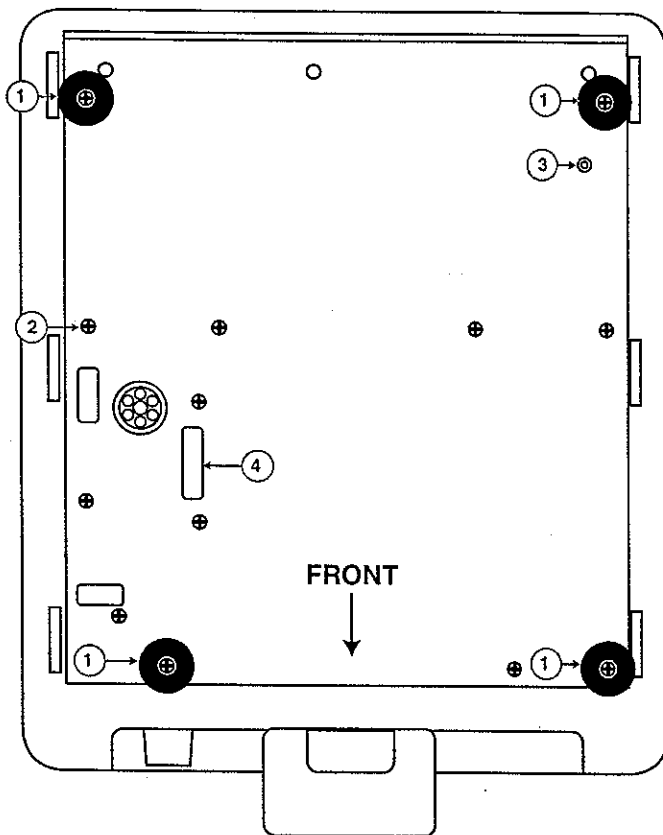
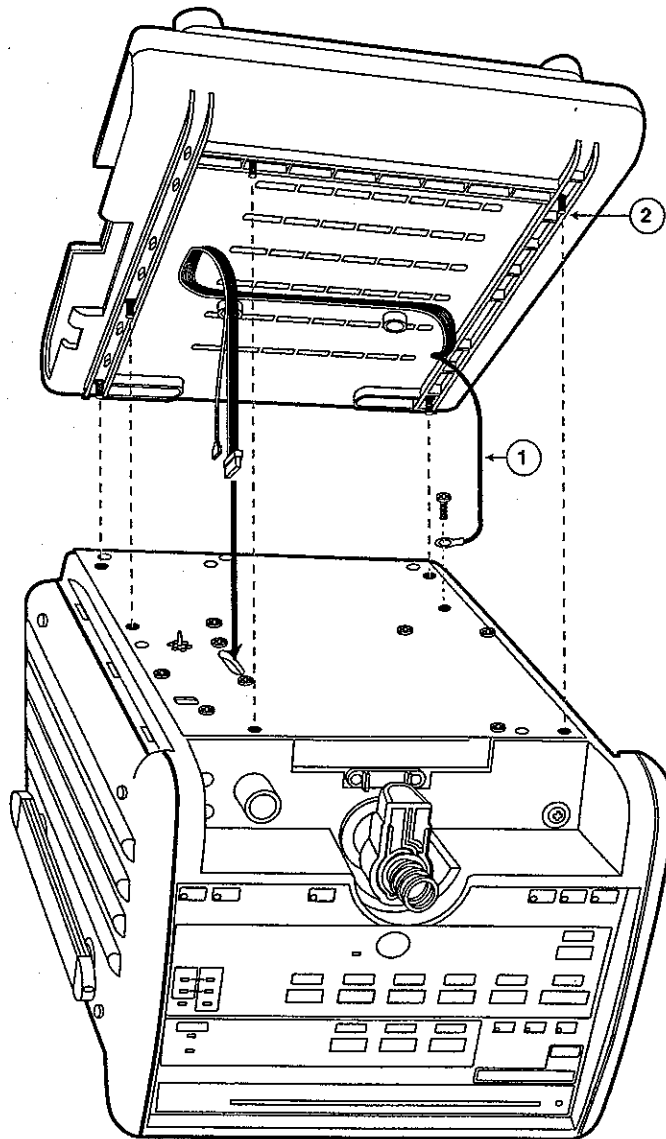

Figure 5-21. Ventilator Base
Figure 5-22. Docking Bay Assembly
- 3 Referring to Figure 5-21, remove the following from the base of the ventilator:
- Four (4) Rubber Bumpers—Ref. 1
- Two (2) Screws—Ref. 2 & 3
- 6 Using the screw provided, attach the green/yellow wire with the ring terminal to the nut insert indicated in Figure 5-22, Ref. 1.
- 8 Starting with the 8 position connector , pass the cables from the docking bay through the slot in the base of the ventilator indicated in Figure 5-22.
- 9 Referring to Figure 5-22, align the captive retaining screws Ref. 2 with the mounting insert ts where the rubber feet and screw Figure 5-21, Ref 2 were removed and tighten with the Phillips screwdriver .